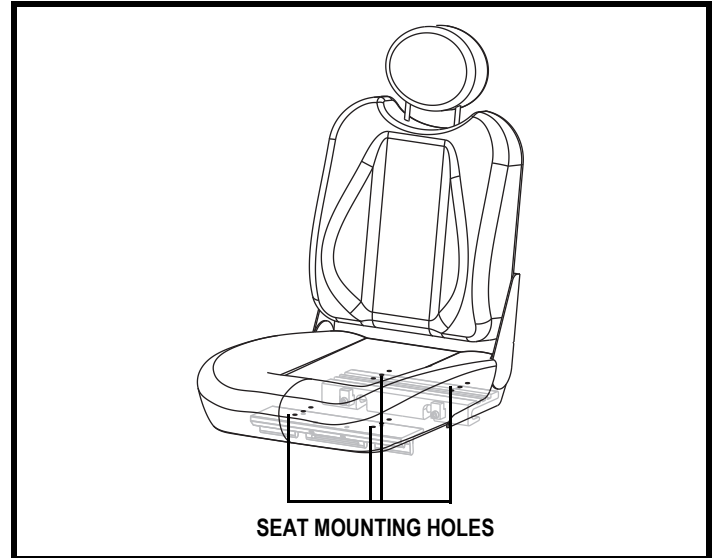

Figure 16. Seat Position Adjustment
5. Reposition the extrusions on a different set of mounting holes. You must move both extrusions the same number of holes either forward or backwards. See figure 16.